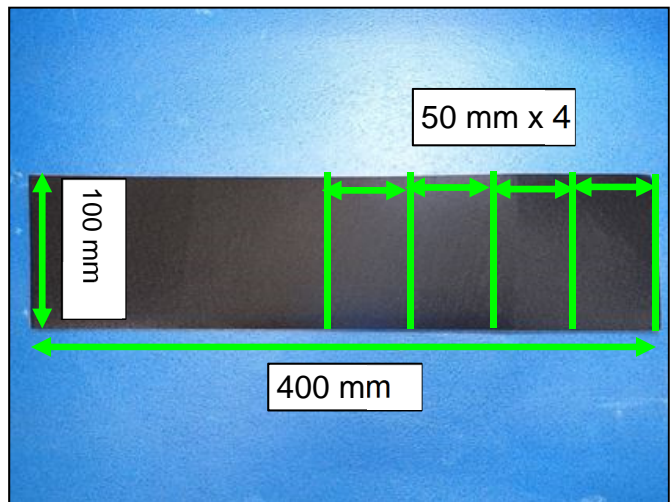
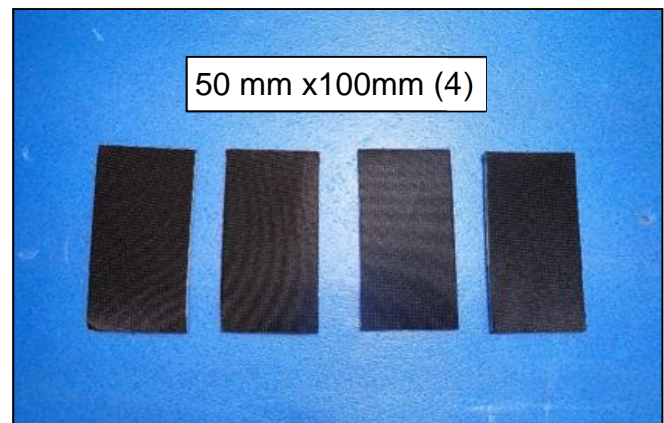

Figure 38
Figure 39
29. Prepare the protective tape cover (B4271-U0100) as shown in Figure 38 and Figure 39.
- Cut four (4) 50 mm strips from the protective tape cover.